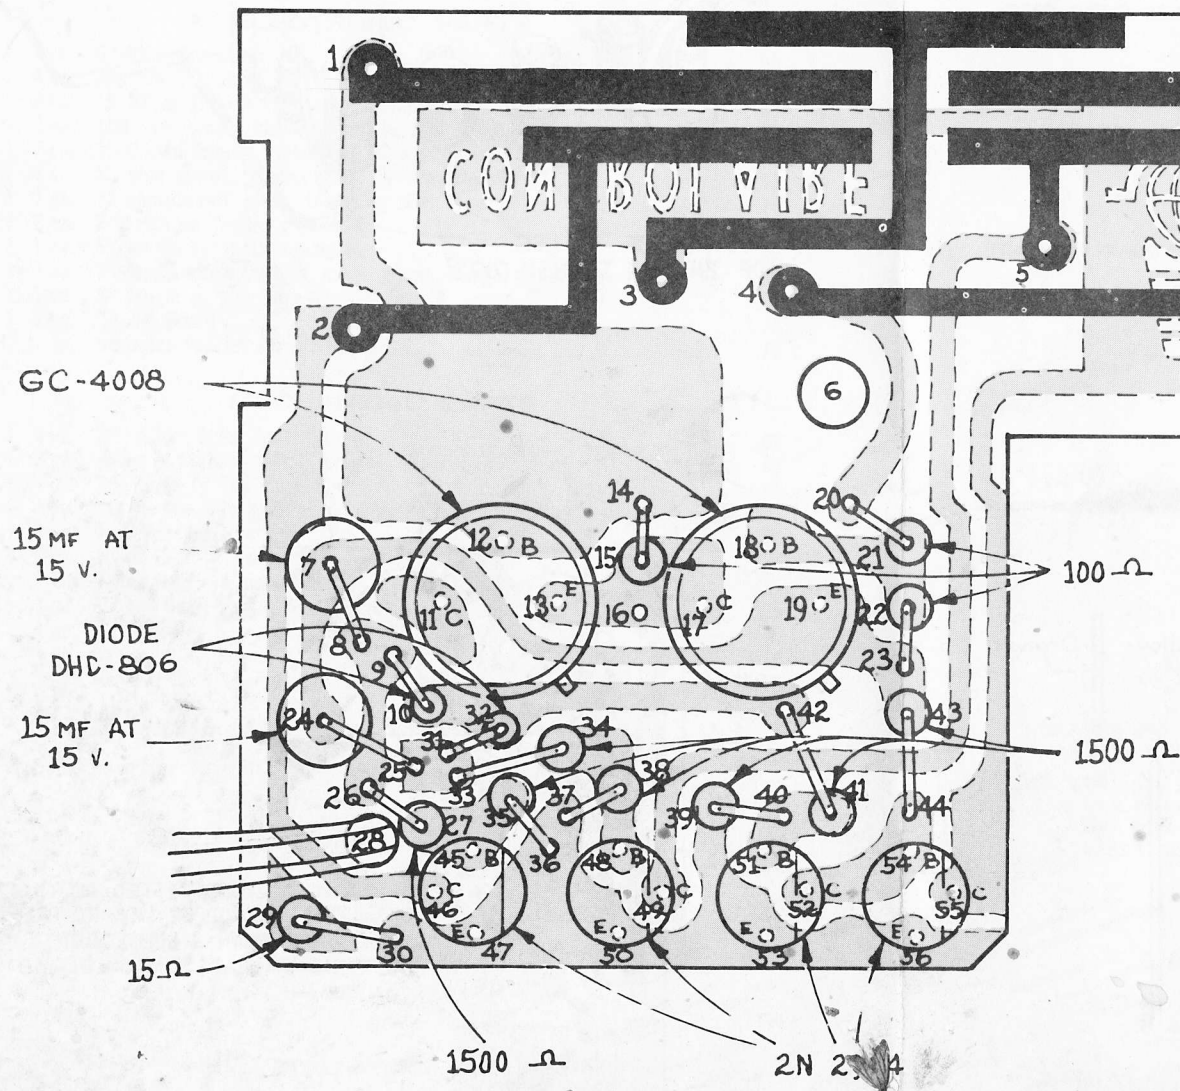

FIG. 1
The multi servo kit has been supplied to you with the electronic parts and the servo mounting kit packaged within one package and mechanical parts such as top and bottom case, "C" frame, motor and plastic parts packaged as a separate unit. It is suggested that you lay out all parts and check them against the Parts Price List to insure completeness of your kit. Use care when disassembling the mechanical parts that are included within the servo's top and bottom case. Carefully remove the top and bottom and note the "C" frame rack and gears and circuit board that are installed within the case. Be careful when removing the traverse rack from the case so that you do not damage the small contact brushes. A good procedure to do this removal is to use the small black piece of insulator board as a shoe horn forcing it in between the frame and the circuit board thus allowing smooth removal of the traverse rack and thus preventing any possible damage. After you have removed the "C" frame, traverse rack and other parts from the one package assembly, carefully study the general overall assembly picture that is in front of you. Remove the small #2 x  $\frac{3}{16}$ " long screw that attaches the circuit board to the "C" frame. Refer to Fig. 1. This is the pictorial showing the assembly of circuit components to the circuit board. Refer also to the actual circuit board. Notice that the pictorial is a top view of the main circuit chassis and that all components are assigned specific hole numbers to insure their exact placement on the circuit board. The shaded area of Fig. 1 represents the copper circuit lands and although on the under side of the board the same lands can be recognized from the small servo board by holding it up to a light source where the pattern will show through. By using the light on the actual servo board specific holes can be identified by association with the pattern of individual copper lands as shown in the pictorial. Assembly of parts to the circuit board is quite conventional. Resistors and most other parts are mounted flush with the circuit board in an upright position with their bodies standing over the holes as shown. Some parts may have special positioning but in all cases this is brought to your attention during the assembly step as the part is installed. As each part is installed to the circuit board bend its leads over slightly to hold it in position for soldering, then after soldering, clip off excess leads about  $\frac{1}{16}$ " from the etched circuit copper. Do not flush bend any component leads to the circuit copper as, if removal is necessary, it cannot be done without damage to the part. Because of the small close solder work, it is suggested that a small soldering iron be used. The Ungar soldering pencil equipped with no larger than a 37½ watt heat element is best suited for the soldering of this kit. Start construction by referring to the assembly steps. During each step refer to pictorials for necessary parts location and solder the leads of each part as it is installed. Place a check mark in the space provided at the completion of each step. Good luck and may your experience be a pleasant one.
- ( ) 12. Refer to both Fig. 1 and Fig. 2 to get correct understanding of the installation of the four 2N2924 transistors. Notice on this transistor that the center lead is the collector. Notice also on Fig. 2 that one transistor has the center lead which is the collector bent away from the flat side of the transistor and three of the transistors have the collector and leads bent toward the flat of the transistor. Install a 2N2924